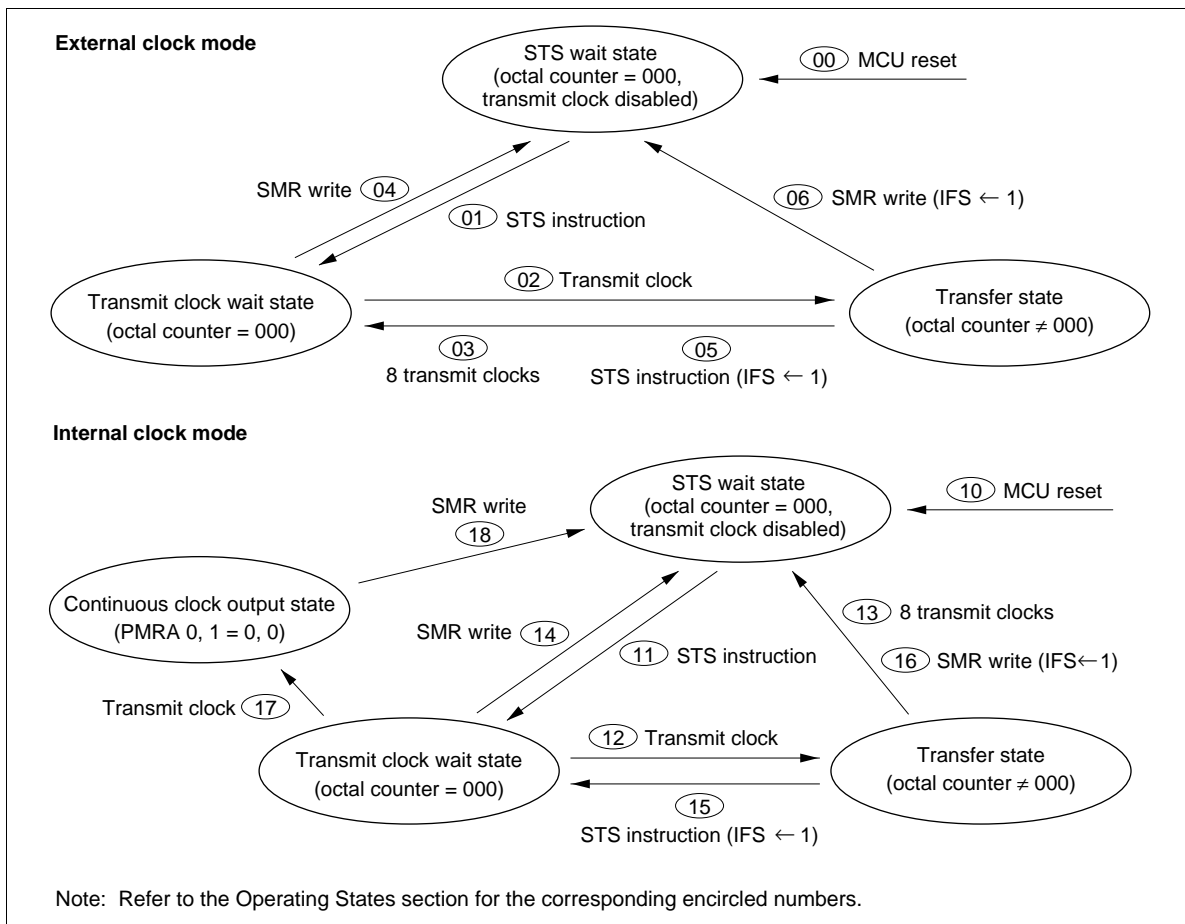

Figure 59 Serial Interface State Transitions
Operating States: The serial interface has the following operating states; transitions between them are shown in figure 59.
- STS wait state: The serial interface enters STS wait state by MCU reset (00, 10 in figure 59). In STS wait state, the serial interface is initialized and the transmit clock is ignored. If the STS instruction is then executed (01, 11), the serial interface enters transmit clock wait state.
- Transmit clock wait state: Transmit clock wait state is the period between the STS execution and the falling edge of the first transmit clock. In transmit clock wait state, input of the transmit clock (02, 12) increments the octal counter, shifts the serial data register, and puts the serial interface in transfer state. However, note that if continuous clock output mode is selected in internal clock mode, the serial interface does not enter transfer state but enters continuous clock output state (17).